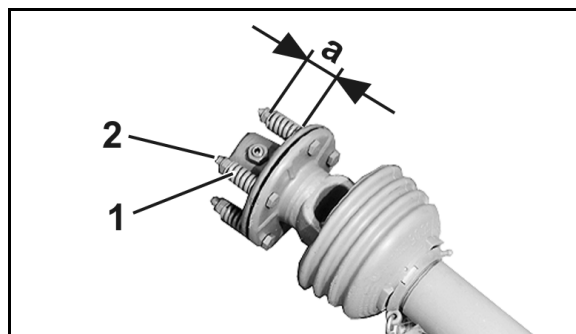

Fig. 71
2. Relieve the springs (Fig. 71/1) by unscrewing the nuts (Fig. 71/2).